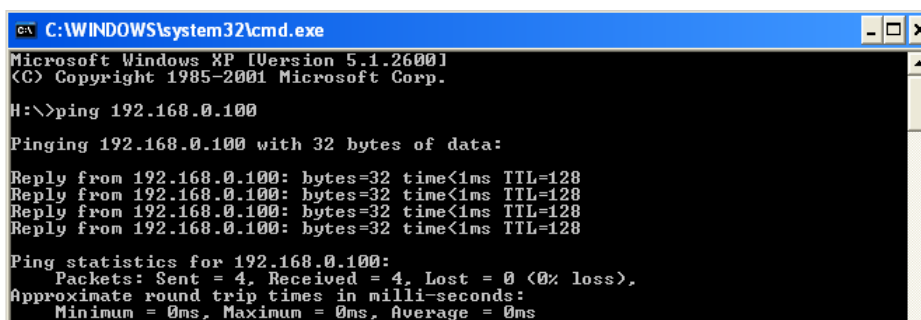

Figure 5-7: Verifying IP Address Changes with Ping
- d) You should see a response from the 907-DIAG-E card similar to the one shown in Figure 5-7.